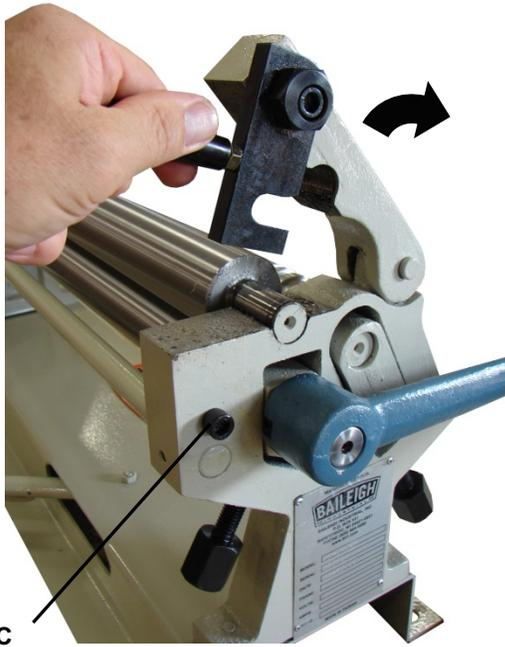

Figure 7-2
1. Grasp the handle on the locking plate and pivot clockwise (cw) to release from the lock bolt (C) (fig. 7-2).